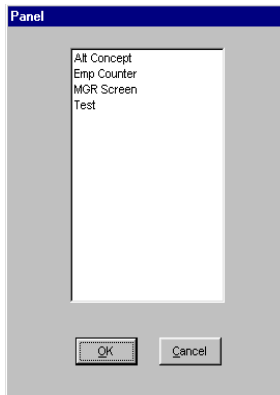

Figure 5-46 Panel Dialog Box
1. Select **Open Existing Panel** from the Commands menu and select one of the **panel types**. The Panel dialog box displays with all existing panels for the selected type, as shown in Figure 5-46:
If there are no active or displayed panels on the workspace, the Panel dialog box displays a list of existing panels from which to choose (Figure 5-46).